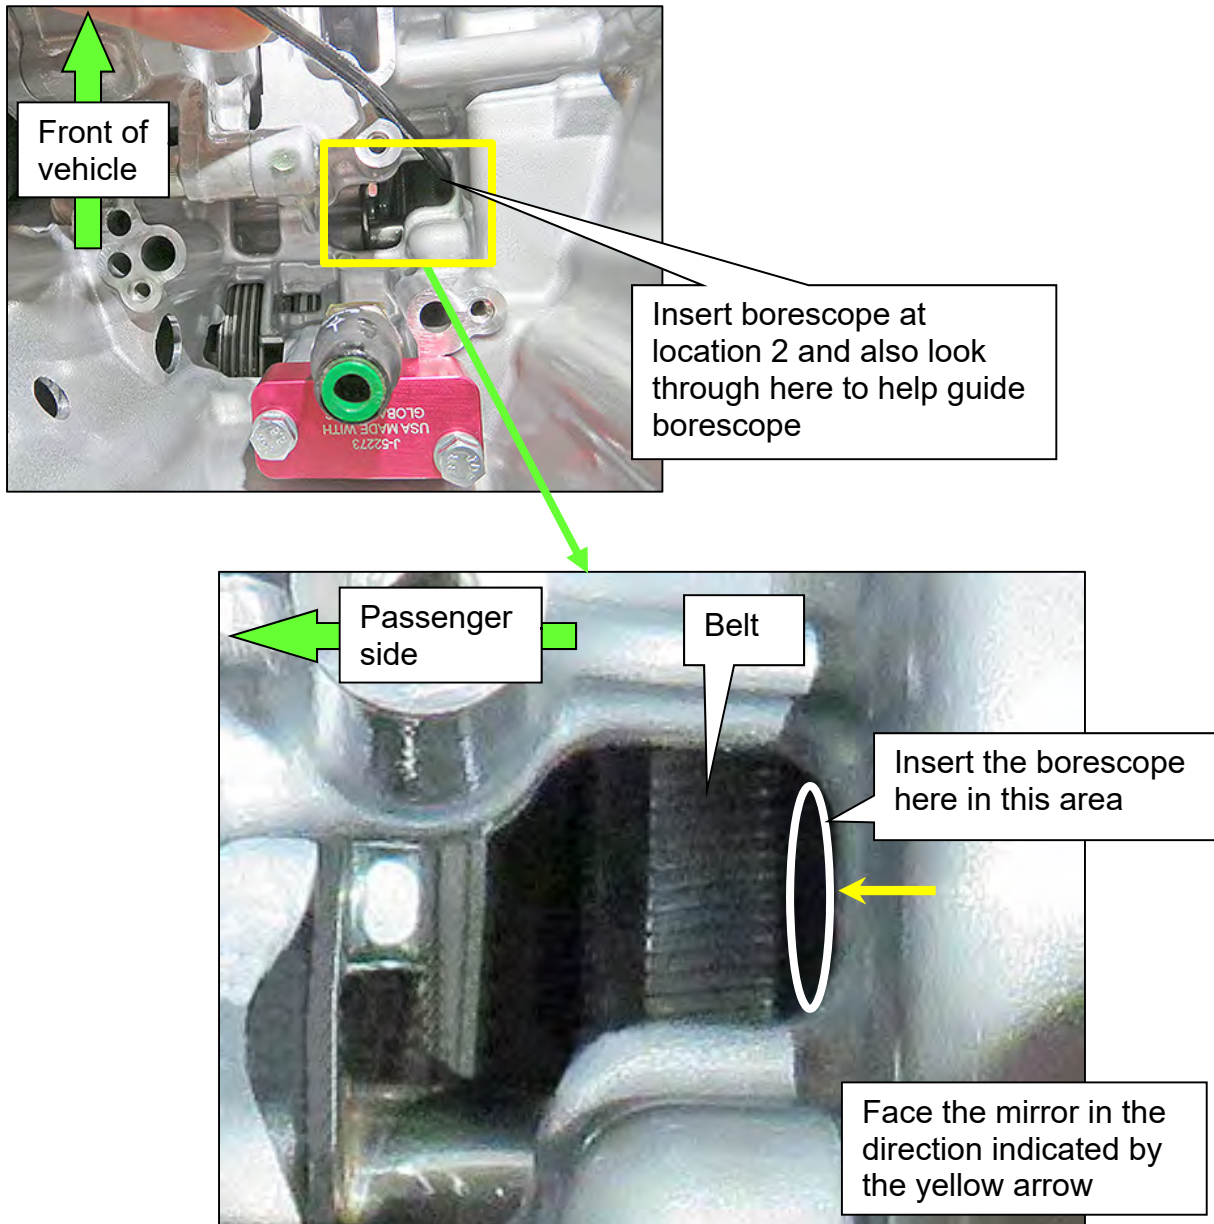

Figure 13
- b. Insert the borescope in the second location where shown in Figure 13.